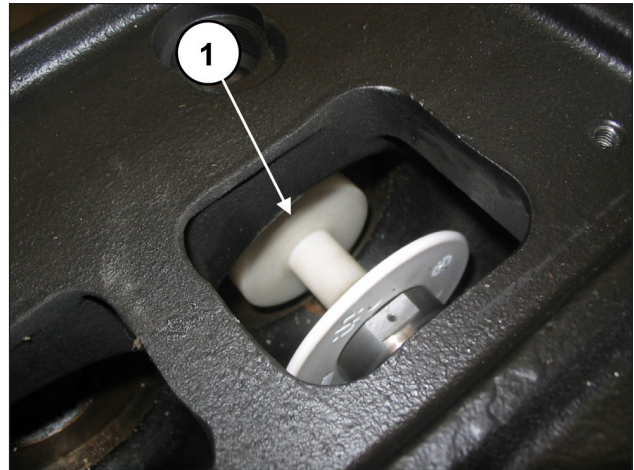

Fig. 153
Manually turn the shaft in such a way to bring the 3 pistons progressively to the top dead centre position and insert the buffer tool code 27516600 between the piston guide and the piston (pos. ①, Fig. 153).